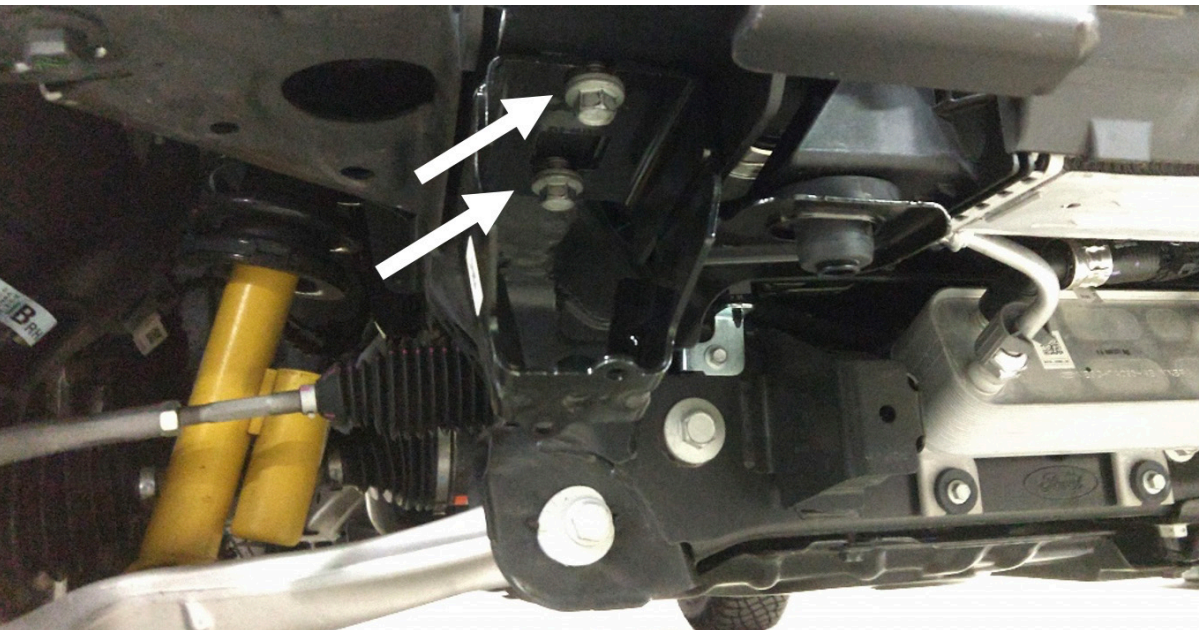

Figure 2
2. Using the 15mm socket wrench, remove the front bolt and loosen the rear bolt that attaches the skid plate mounting brackets to the frame letting the two brackets hang down. Figure 2.